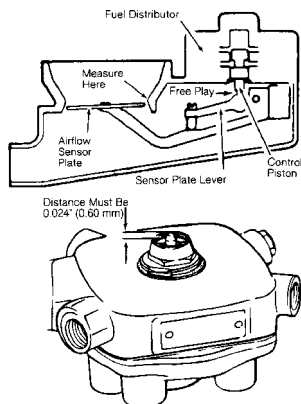

Fig. 3: Checking Sensor Plate Free Play
1) Free play is measured between control piston and adjusting lever. To ensure Differential Pressure Regulator (DPR) current is 4-16 mA, sensor plate lever must be positioned correctly. Measure free play on side of sensor cone closest to fuel distributor. See Fig. 3.